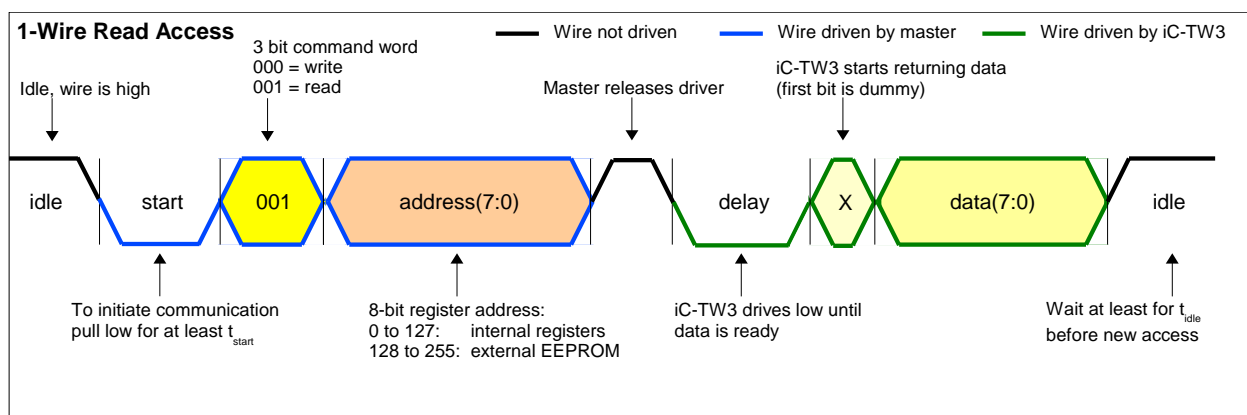

Figure 3: Register read sequence
A read sequence is depicted in Figure 3. After the start condition the read command (001) is followed by the register address. The master then releases the wire and iC-TW3 begins to pull low while internally accessing the data. When the data is ready it is produced while following the same PWM rules valid for the master.